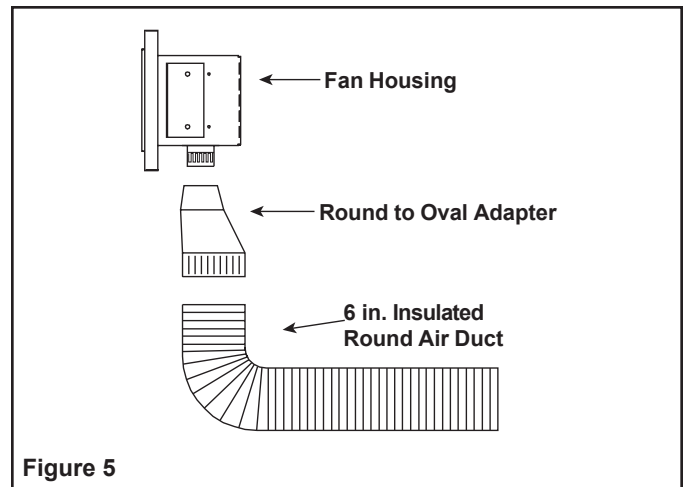

Figure 5
6. **Insulated Round Air Duct:** Attach the 6" round air duct (supplied in the kit) to the fireplace collar with sheet metal screws and run the duct to the fan housing. Attach the round-to-oval adapter to the fan housing and the air duct to the adapter. See Figure 5.